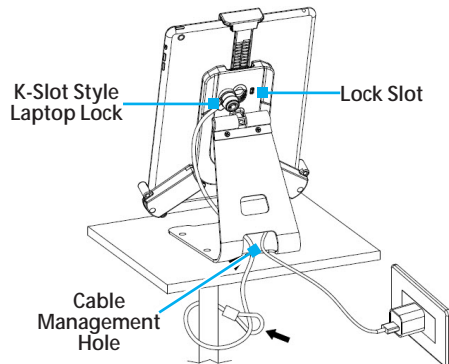

Figure 7
1. Wrap the looped end of the **K-Slot Style Laptop Lock** around the **Mounting Point** (e.g. table leg, fixed desk mounting point, etc.) and feed the lock head of the **K-Slot Style Laptop Lock** through the looped end. (Figure 7)